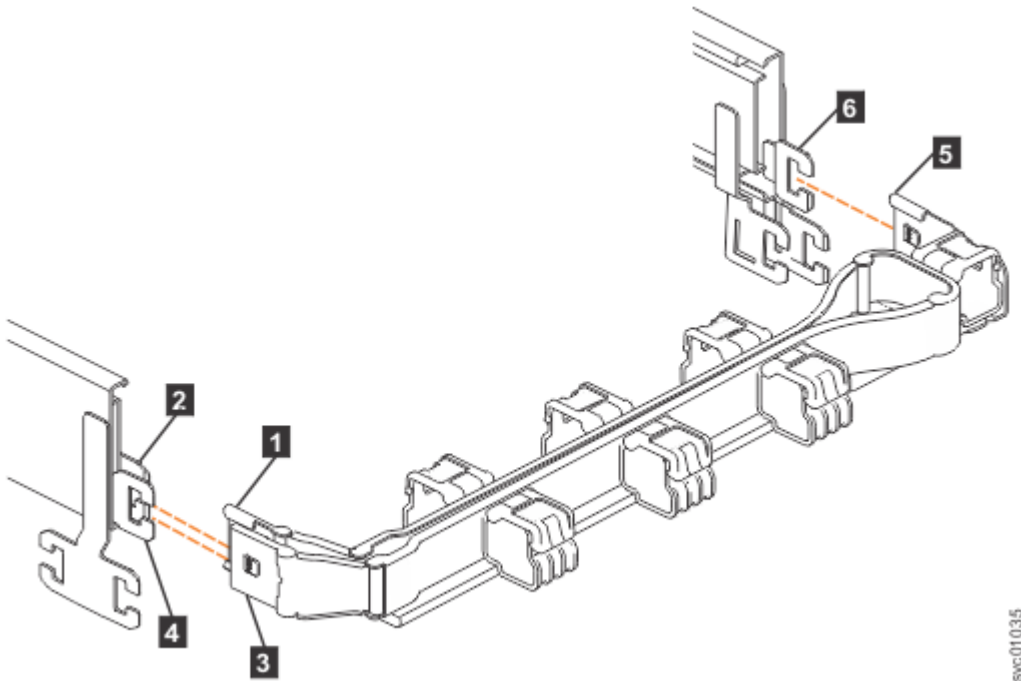
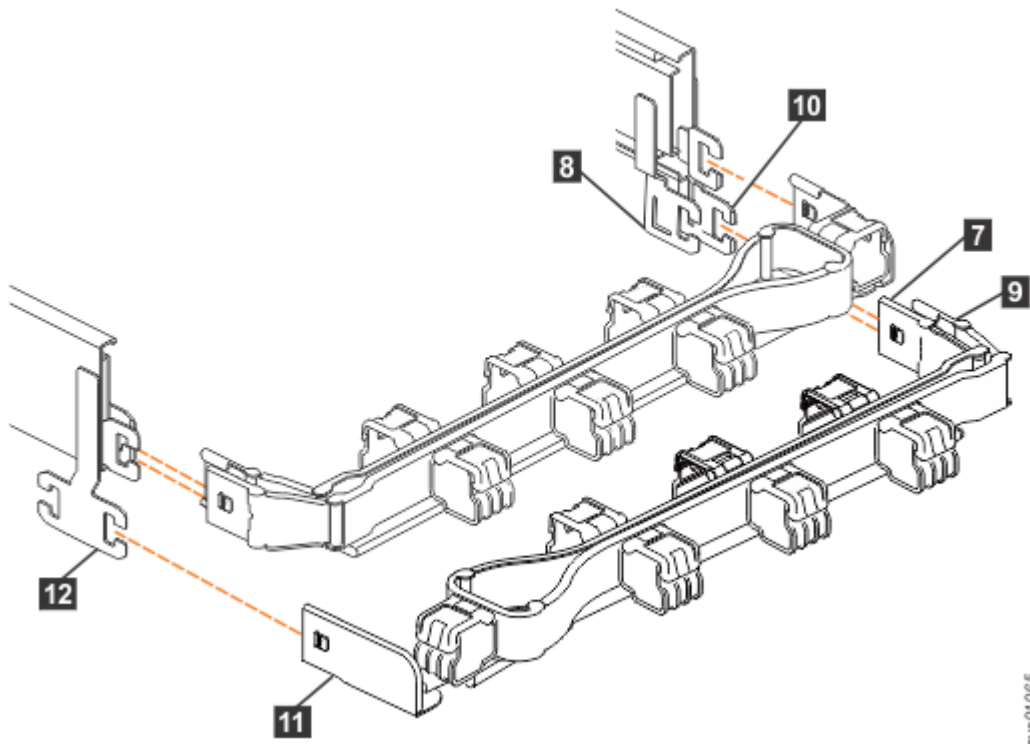

Figure 90. Connectors for the upper cable management arm
Figure 91. Components of the lower CMA assembly
The connectors of the CMA are installed on the rail hooks at the end of the support rails. Figure 90 on page 156 shows the connectors on the upper CMA assembly.
1. Press the latch on the connector base on the upper CMA assembly (**5** in Figure 90 on page 156).
2. Pull the connector to remove it from the connector base on the right support rail (**6** in Figure 90 on page 156).
3. Press the latch on the outer connector of the upper CMA assembly (**3** in Figure 90 on page 156).
4. Remove the outer connector from the inner member of the left support rail (**4** in Figure 90 on page 156).
5. Remove the inner connector of the upper CMA assembly (**1**) from the inner member of the left support rail (**2**), as shown in Figure 90 on page 156.
Note: The procedure for removing the lower CMA assembly is the same as the procedure to remove the upper CMA assembly. However, the connector locations are reversed. For example, the connector base of the upper CMA (**5** in Figure 90 on page 156) connects to the right rail. The connector base of the lower CMA (**11** in Figure 91 on page 157) attaches to the left rail.
6. Remove the connector base on the lower CMA assembly (**11**) from the connector on the left support rail (**12**), as Figure 91 on page 157.
7. Remove the inner connector of the lower CMA assembly (**9**) from the outer member of the right support rail (**10**), as shown in Figure 91 on page 157.
8. Remove the outer connector of the lower CMA assembly (**7**) from the inner member of the right support rail (**8**), as shown in Figure 91 on page 157.